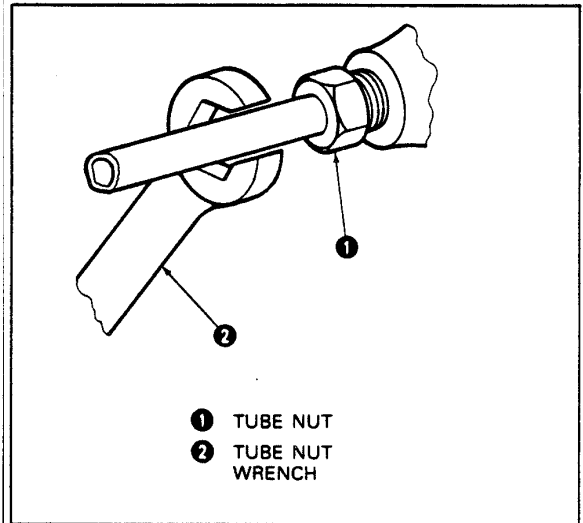

Figure 9 — Use of Tube Nut Wrench
5. Brake line fittings will sometimes become rusted or corroded to the wheel cylinder and/or brake line. Be careful not to twist the line causing a line fracture during removal or installation. Brake line open ends should be capped to prevent the entrance of foreign material. Always use correct type and size of wrench on fittings (Figure 9).